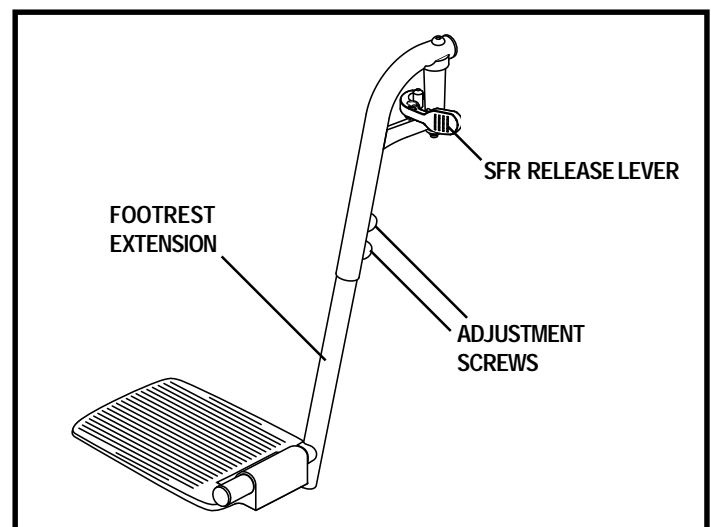

Figure 20. Swing-Away Footrests
1. Push in the SFR release lever. See figure 20.